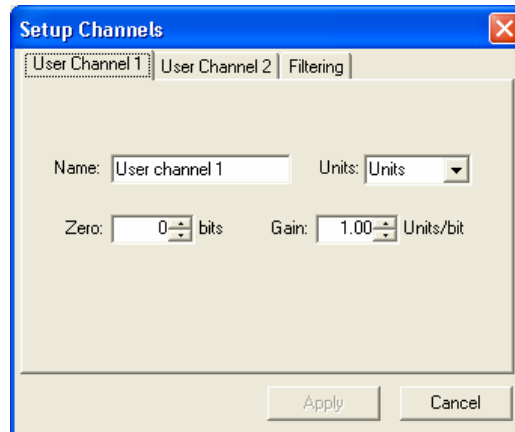

Figure 33 - Setup Channels Dialog (User Channel Page)
1. Choose **Setup** ➔ **Channels** from the main menu. The Setup Channels Dialog (Figure 33) appears.
The two user channels of the RCA40 are configured in the same way so the pages used to set them up are identical. Click the **User Channel 1** tab to display the User Channel 1 page (Figure 33) and the **User Channel 2** tab to display the User Channel 2 page.